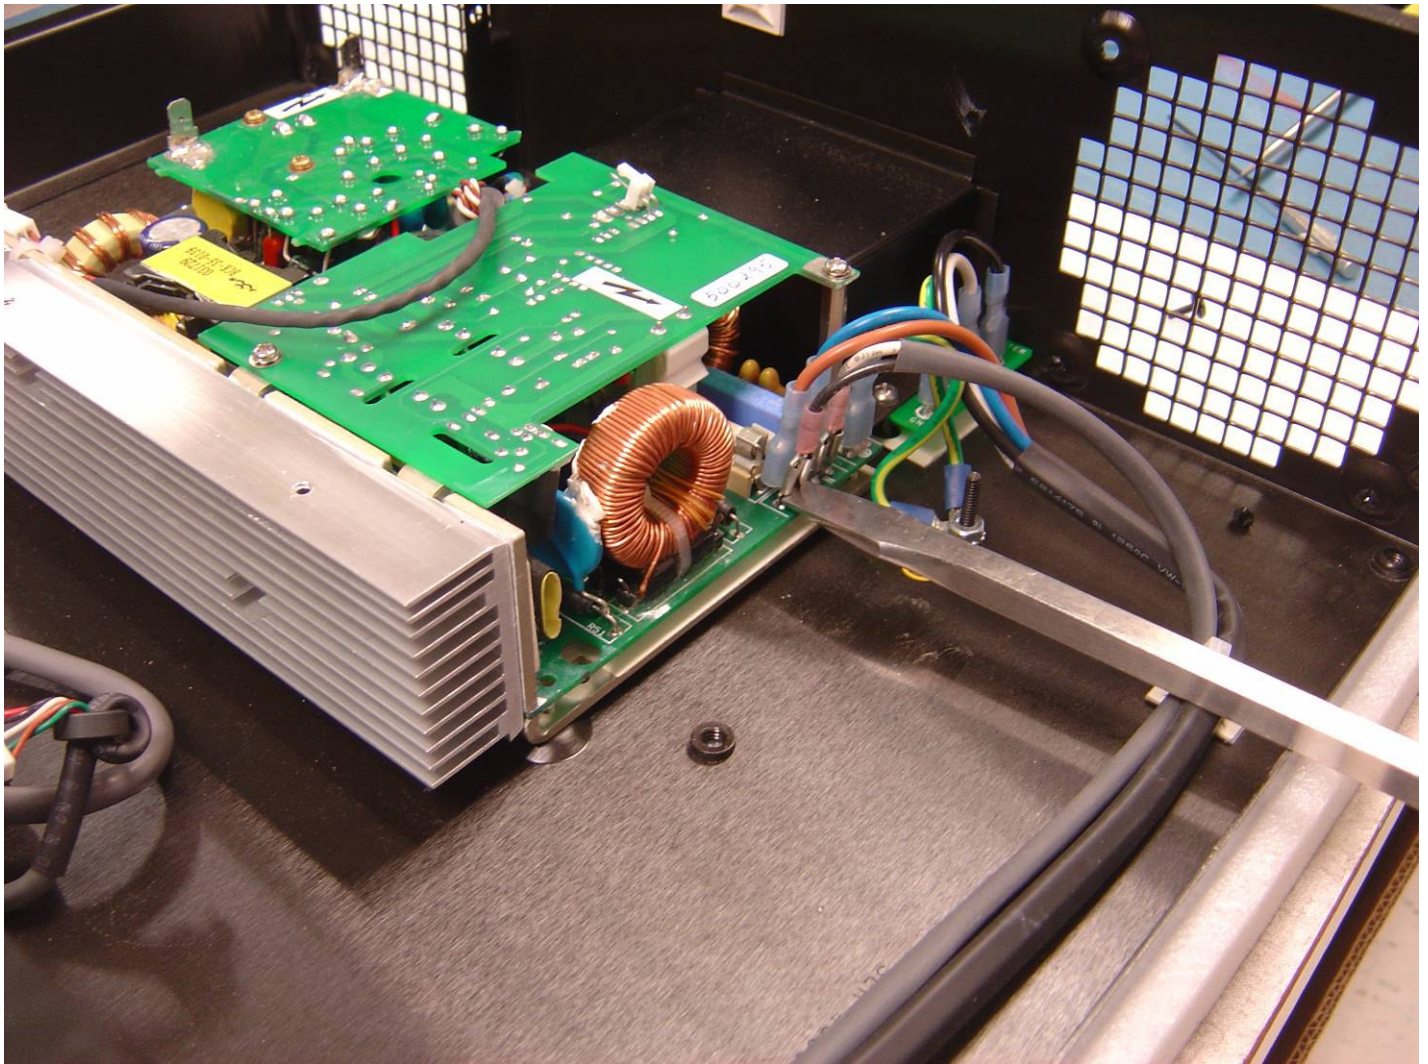

Figure 27
2. Disconnect live, neutral, & ground connections – Fig. 27.